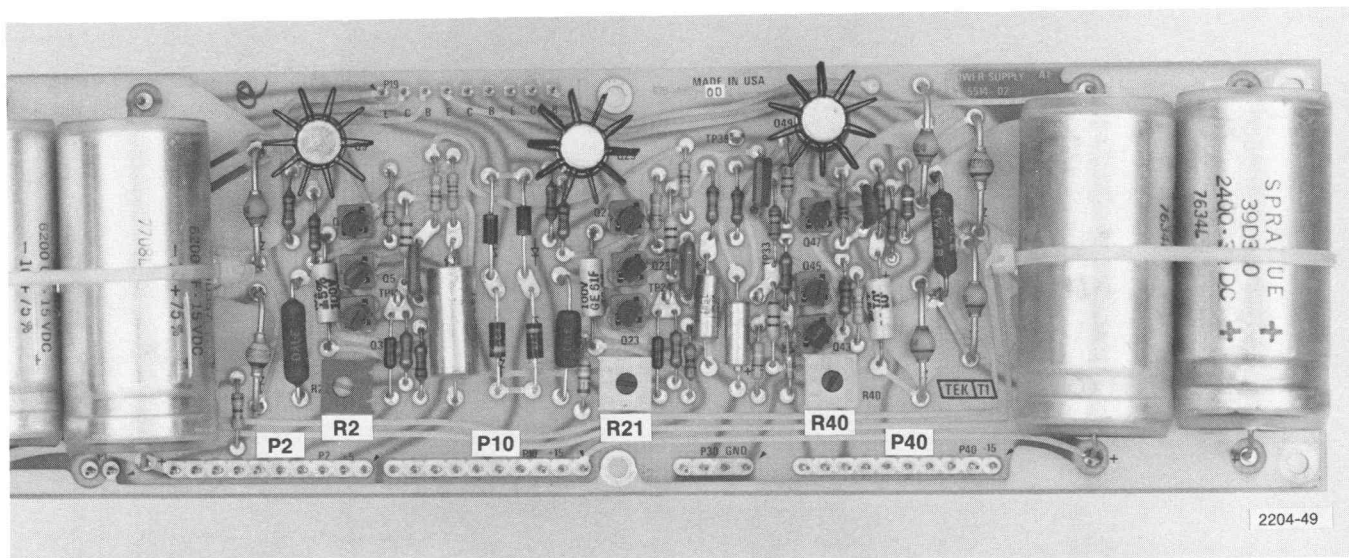

Fig. 6-2. Power Supply Circuit Board.
a. Connect the digital voltmeter between the −15 V supply and ground. (The −15 V supply is on P40 of the Power Supply board, A1). See Fig. 6-2.
a. Connect the digital voltmeter between the $+15\text{ V}$ supply and ground. (The $+15\text{ V}$ supply is on P10 of the Power Supply board, A1. See Fig. 6-2.
a. Connect the digital voltmeter between the $+5\text{ V}$ supply and ground. (The $+5\text{ V}$ supply is on P2 of the Power Supply board, A1). See Fig. 6-2.